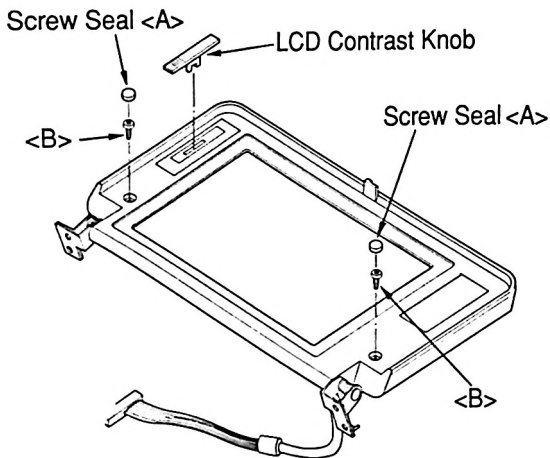

Figure 19
- (4) Gently lift up the LCD contrast knob by holding both ends as shown in Figure 19.
- (5) Gently remove two screw seals <A> on both sides by using a sort of ice pick and remove two screws (3Øx8) as shown in Figure 19.